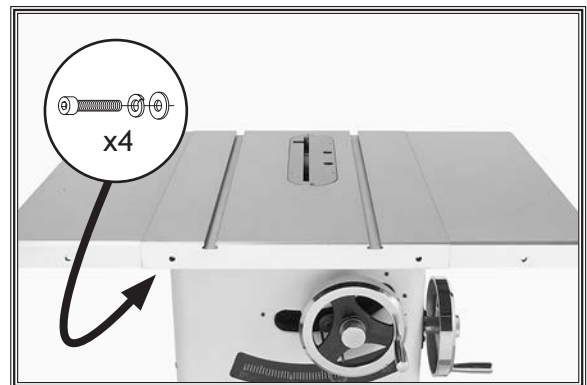

Figure 15. Extension wings installed.
8. While a helper holds the wings in place, attach each extension wing to the main table with the four M8-1.25 x 30 cap screws, 8mm lock washers, and 8mm flat washers removed in **Step 6** (see **Figure 15**).